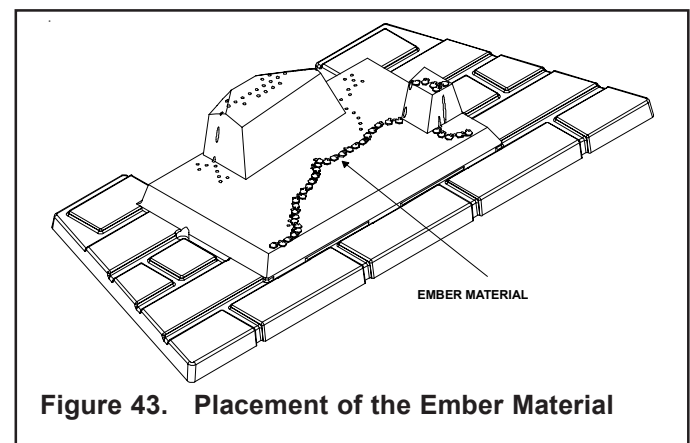

Figure 43. Placement of the Ember Material
- When placing Glowing embers onto the burner care should be taken so that the ports are not covered. Place the embers along side the port trail, but not on or in between the ports (see Figure 43). Failure to follow this procedure will likely cause lighting and sooting problems.